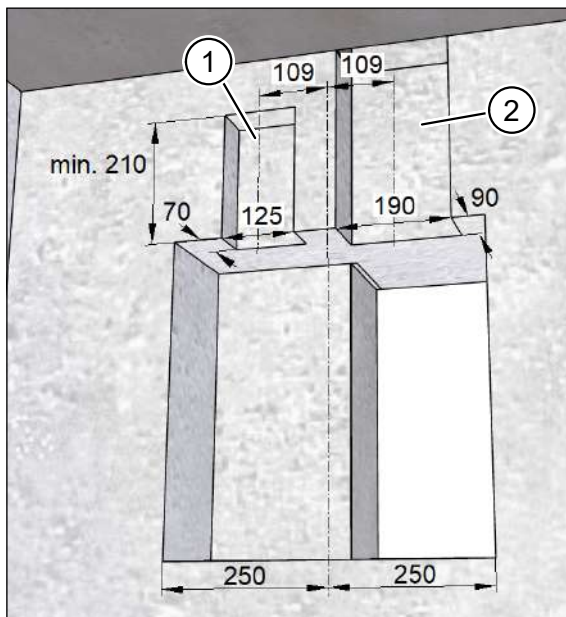
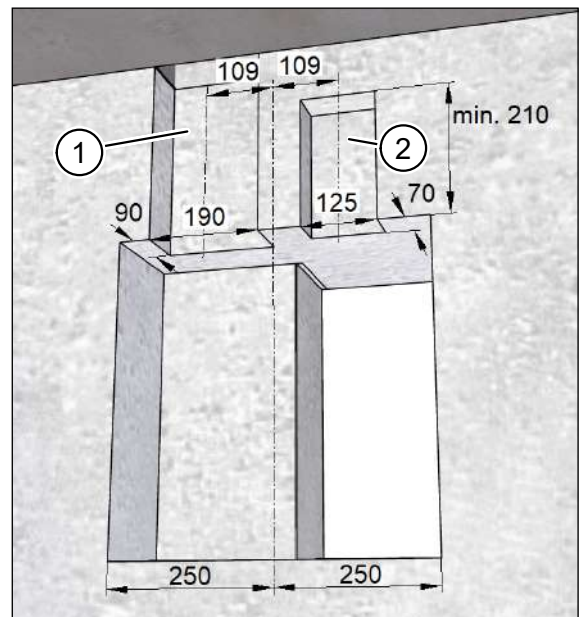

Fig. 16: Chasing out channels for flat ductwork and flexible pipe connections, dimensions in millimetres
Fig. 15: Chasing out channels for flexible pipe and flat ductwork connections, dimensions in millimetres
- Fig. 16: **extract air** (item 1) flat ductwork connection, **supply air** (item 2) flexible pipe connection
- Fig. 15: **extract air** (item 1) flexible pipe connection, **supply air** (item 2) flat ductwork connection
- ▶ Use the wall chaser to chase out one channel for the flexible pipe 190 mm wide and 90 mm deep as far as the flexible pipe outlet in the ceiling (see Fig. 16 and Fig. 15 on page 23).